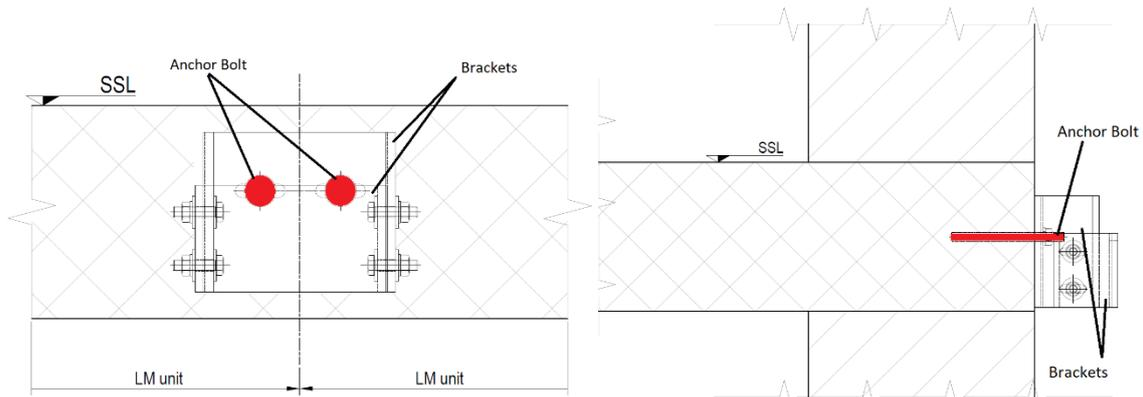

Figure 5 Front and vertical detail of bracket setting out for the connection units
1. Brackets installation (Figure 5)